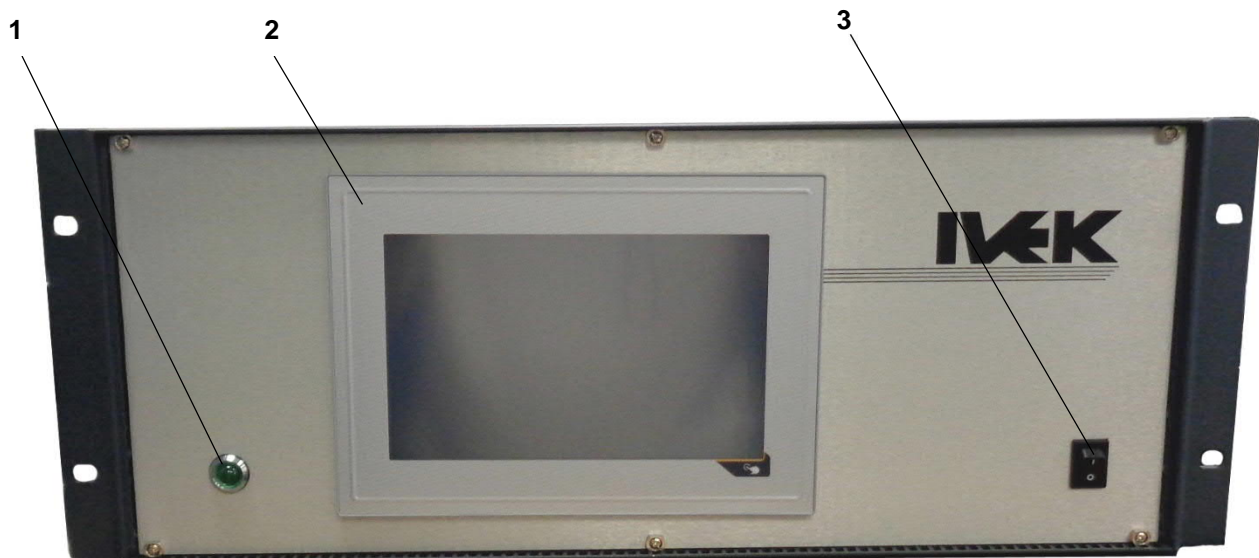

Figure 3.1 Multiplex Version 3.0 Controller Module Front Panel
3.1.1 Control Cabinet Front Panel (Figure 3.1)
3.1.1.1 Power Indicator (Figure 3.1 Item 1)
3.1.1.2 Touchscreen (Figure 3.1 Item 2)
3.1.1.3 On/Off Switch (Figure 3.1 Item 3)